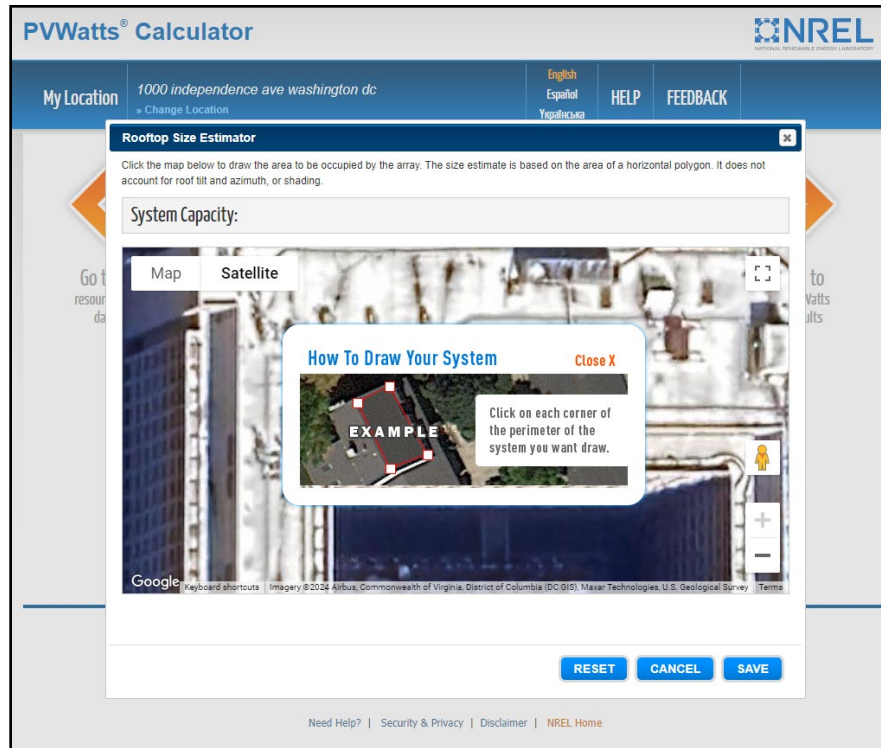

Figure 1. The Rooftop Size Estimator tool, part of the NREL PVWatts® Calculator.
- Determine the size of your project.** Estimate the size of a solar project, i.e., capacity in kilowatts (kW), that might be installed at each site and the associated annual solar electricity output in kilowatt-hours (kWh). Use the National Renewable Energy Laboratory's (NREL's) PVWatts® Calculator (including the "Rooftop Size Estimator," see Figure 1) or another tool to produce this information. Downsize the solar capacity, as needed, to better match on-site electricity use. Install energy efficiency measures first or include them as part of your project and in your downsizing calculations. **Tip:** This helps comply with utility net metering¹ limits that typically exist on solar projects. If your utility has aggregate or virtual net metering programs, you may be able to allocate excess solar production from one of your sites to others.